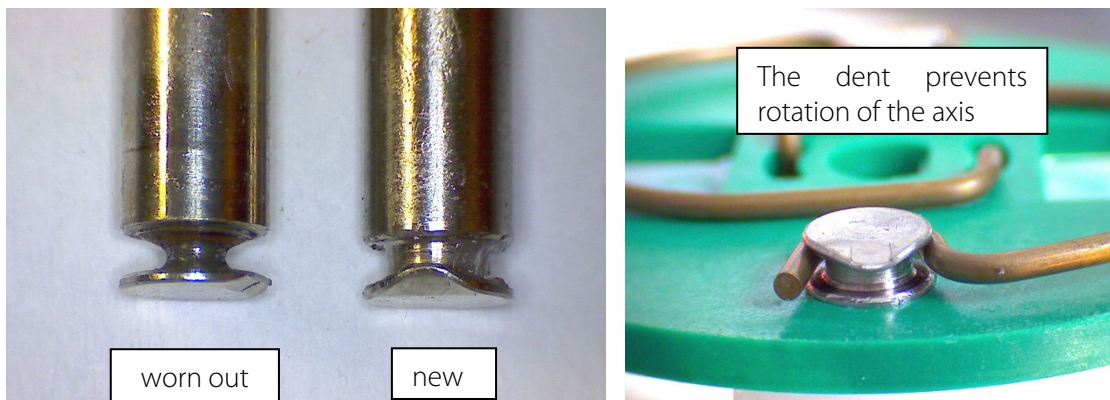

Figure 13 Check of axes and rolls
3. Remove the pump head ② from the motor shaft
5. The removal of the springs .4 pcs.) ③ away from the driver is easily possible without the aid of any tools. For this take spring out of the groove ④ near to the shaft bore.
6. Dismount roller axes and change contact pulleys. Take care that axes are not worn out by the springs and have damaged the dent at the axes front end. In case of abrasion the axes have to be changed (see Figure 13).
7. Make sure that contact pulleys move easily on the axis. After remounting the axis with contact pulley into the driver the spring has to be mounted as shown as in Figure 13. Please pay attention to the alignment of the dent.